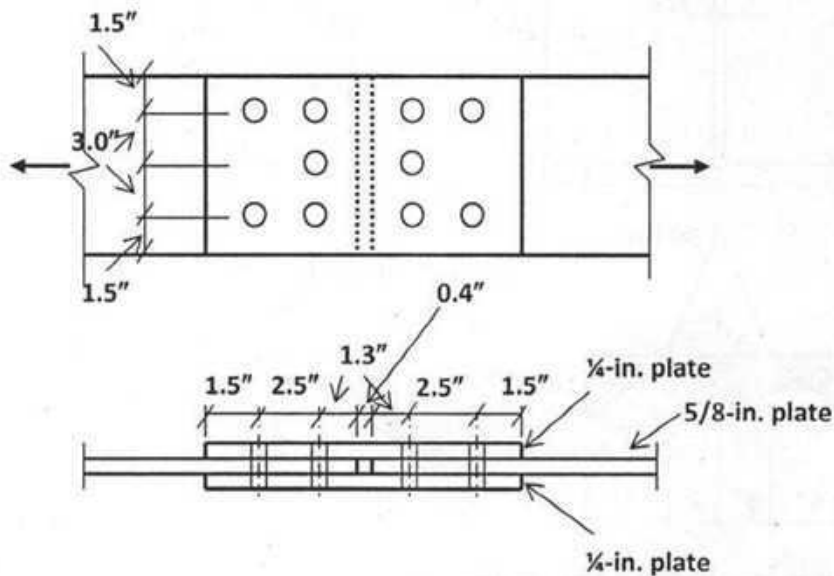

Fig. 1
1. Calculate the probable net areas for the tension splice shown in Fig.1 and hence find the net area that governs the splice design. All material is A36 steel. Bolts are 5/8-in. A325 in standard holes. Also determine the effective net area if $U=0.85$. 8 1/3